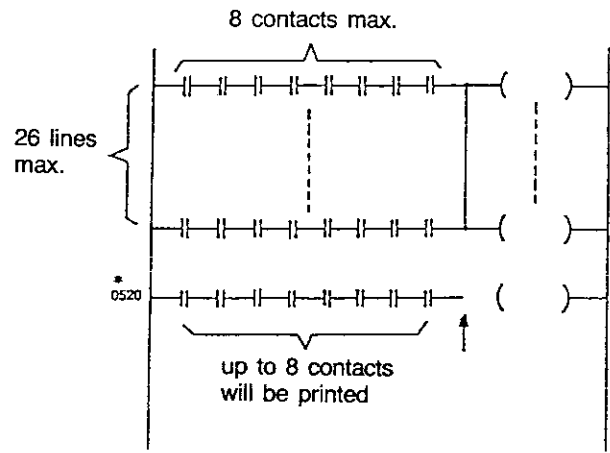

Figure 3.10
Example: A branch of a ladder diagram (LD) consisting of 10 contacts in series shall be printed out. Only the first 8 contacts are printed out. For marking an asterisk (\*) is printed above the line number (s. figure 3.10).